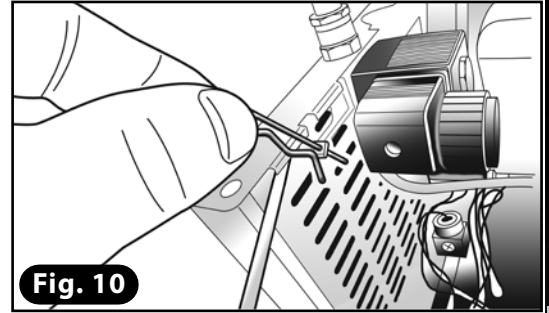

Fig. 10
- 9) Use cut-off scissors to remove the excess part of the element (**Fig. 10**).
- 16) Remove the safety clip on the supporting rod of the body, keeping the body raised with your free hand (**Fig. 10**).